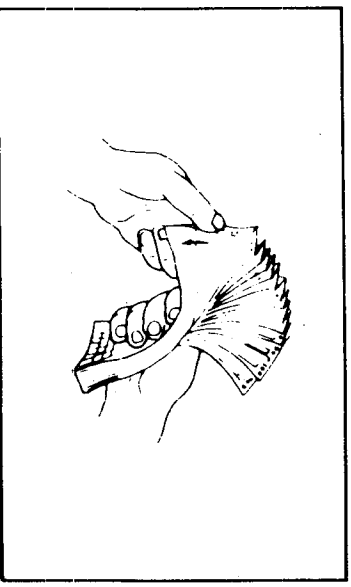

Figure 3-2.
- (1) When using Z-fold charts riffle the chart thoroughly from left to right and from top to bottom, as shown in Figure 3-2.